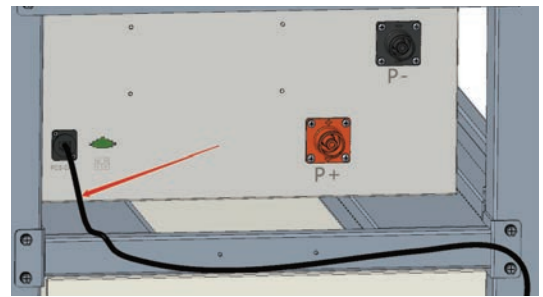

Figure 2.11
(7) The main control box communication CAN line is connected to the PCS communication CAN line. Plug in and lock the main control box CAN communication plug, and lock the PCS communication CAN port. (Figure 2.11).